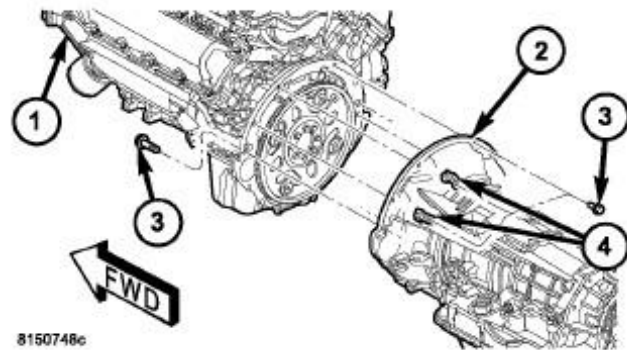

Figure 34 – Engine to Transmission Bolts
72. Remove two engine to transmission bolts (3) (Figure 34).
73. Remove remaining transmission to engine bolts (4) (Figure 34).
74. Carefully work transmission (2) and torque converter assembly rearward off the engine (1) block dowels (Figure 34).
9. Carefully work transmission (2) and torque converter assembly forward onto the engine (1) block dowels (Figure 34).